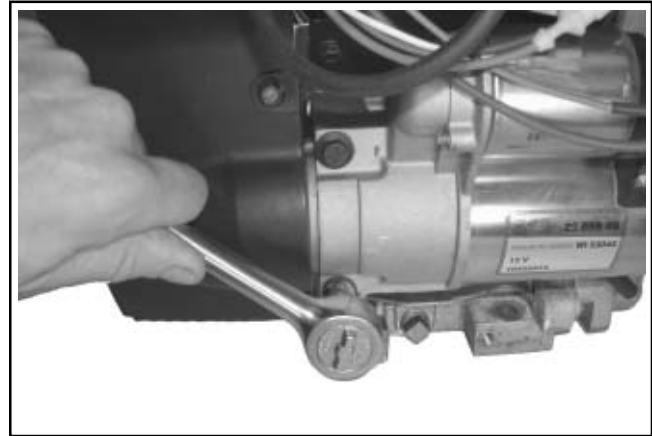

Figure 9-26. Removing Electric Starter Motor.
2. Remove the two hex. flange screws. See Figure 9-26.